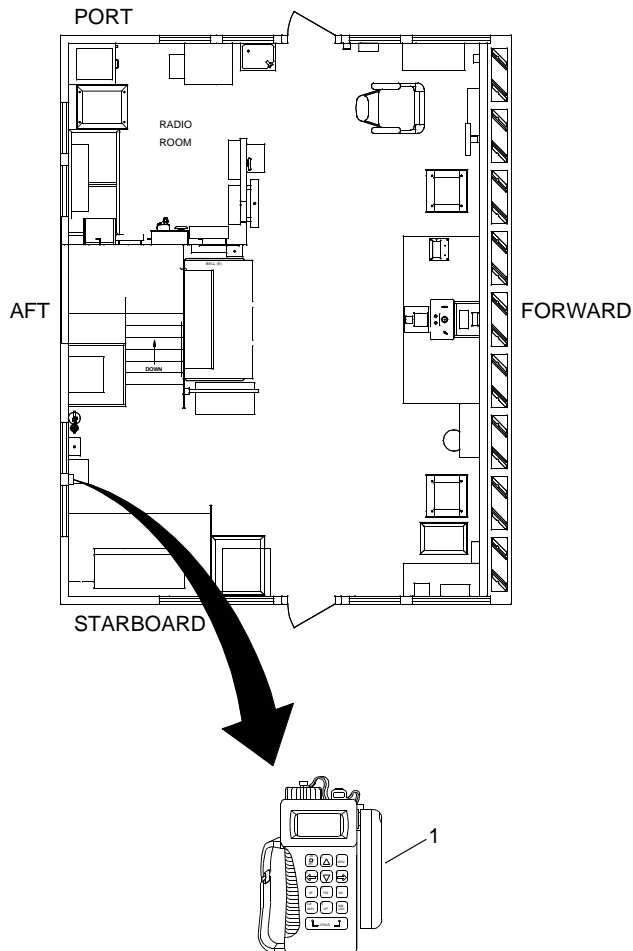

Figure 6. PLGR Location
The PLGR (figure 6, item 1), located on the aft port bulkhead, supplies GPS position to the DSC controller, satellite communications system and the VHF-DSC transceiver through the interface and switchbox. The PLGR receives GPS data from the GPS antenna located on the mast. A PLGR interface cable receives power for the PLGR from the interface and switchbox, receives the GPS signal from the interface and switchbox and returns the ships position to the interface and switchbox for distribution to DSC controller, satellite communications system and the VHF-DSC transceiver. The communications PLGR may be used to mark the position of a man overboard and provide route navigation when properly programmed.